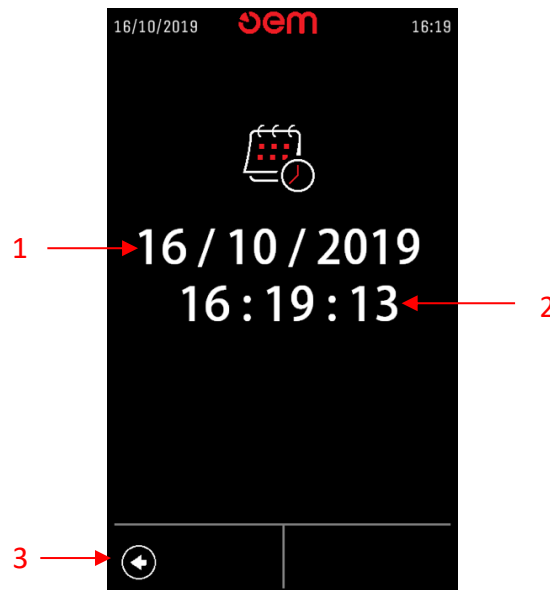

Fig.9
6.3.6 Calendar (Fig. 9)
1. DATE (Fig. 9 – Pos. 1).
2. TIME (Fig. 9 – Pos. 2).
To change the date and time, click on the corresponding value and change it using the "+" and "-" buttons. Once the Date and Time have been changed, press the Back button (Fig. 9 – Pos. 3).